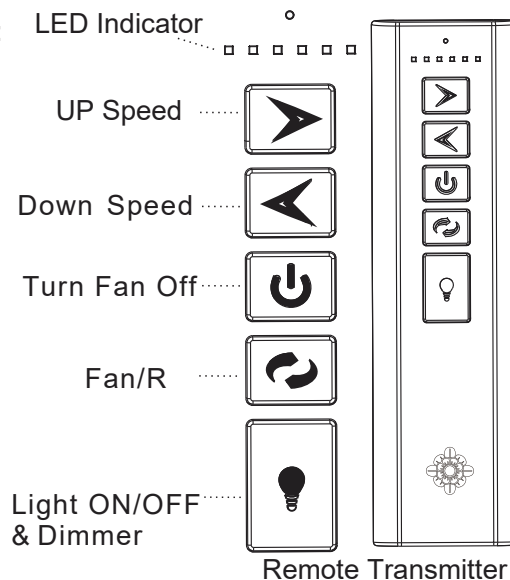

Fig.4
**The buttons on the remote control transmitter control the fan speed and light as follows. (Fig. 4)**